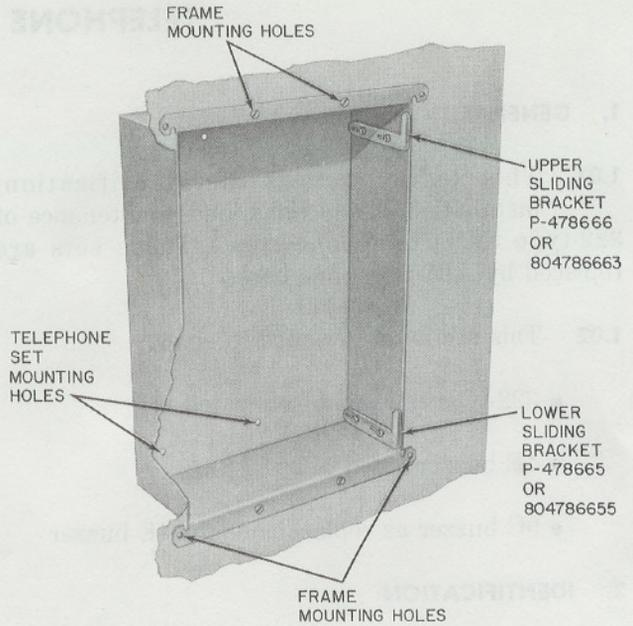
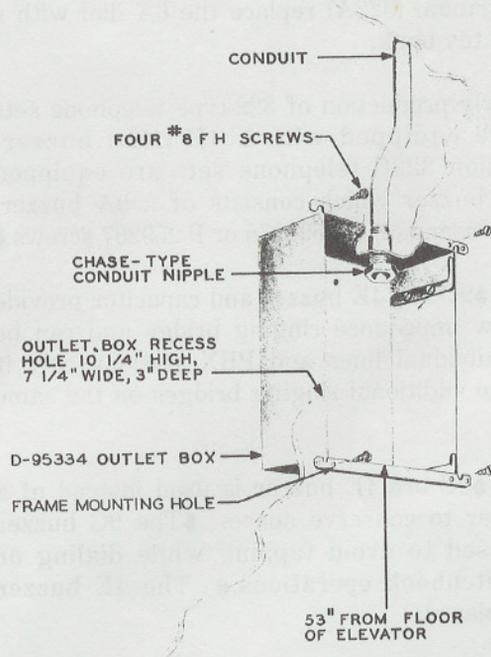

Fig. 2—D-95334 Outlet Box
Fig. 3—Mounting of Outlet Box
- 3.05 It is recommended that as a general proposition the standard D-95334 outlet box (Fig. 2) be mounted in a recess 10-1/4 inches high, 7-1/4 inches wide, 3 inches deep, and 53 inches from floor as illustrated in Fig. 3.
- 3.12** Two sliding brackets and four filister head machine screws are furnished with 322-type telephone set and are attached to outlet box at locations indicated in Fig. 2.
- 3.14** To support the 322-type set in a convenient position while making connections or adjustments, turn the set at a right-angle to the outlet box and place the 804786671 or P-478667 brackets (Fig. 4) over the 804786663 or P-478666 and 804786655 or P-478665 sliding brackets (Fig. 2).